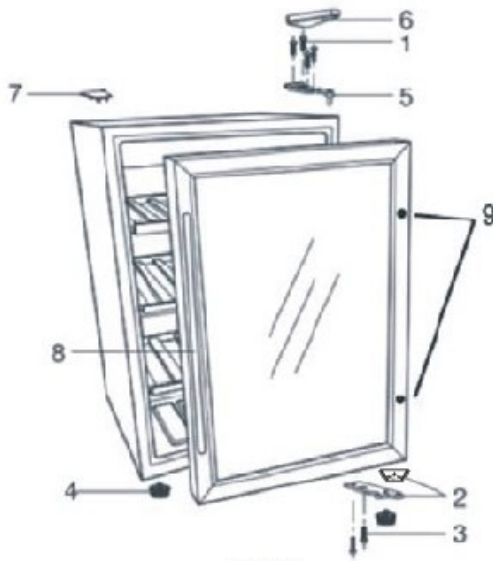

Fig. 3
- Open the door and slightly pull back the door gasket behind to reveal the two (2) holes and screws that secure the handle to the door.
- Using a screwdriver (not included), remove the handle (Fig. 3: No. 8) by rotating the two (2) screws counterclockwise. Remove the screws and washers and place in a secure location. Place handle on a padded surface.
- On the opposite side of the door, you will notice two (2) filler screws (Fig. 3: No. 9) covering the holes where the handle is to be installed. Using a flathead screwdriver (not included) remove the two (2) filler screws (Fig. 3: No. 9) by rotating clockwise from the inside of the door
Note: Do not attempt to remove these filler screws (Fig. 3: No. 9) from the exterior of the door as you cause damage to the stainless steel door frame.
- Mount the filler screws (Fig. 3: No. 9) over the holes on the opposite side of the door.
- Install the handle (Fig. 3: No. 8) on the desired side. (See “Installing the handle” section on page 6)